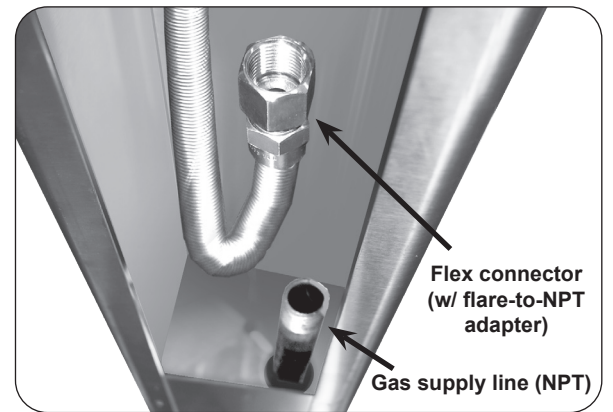

Fig. 23-2 Post interior detail
2. Verify that the gas supply line fits through the gas line clearance hole in the bottom of the post (see Fig. 23-2). The clearance hole is the larger of the two holes in the bottom of the post and is off center.